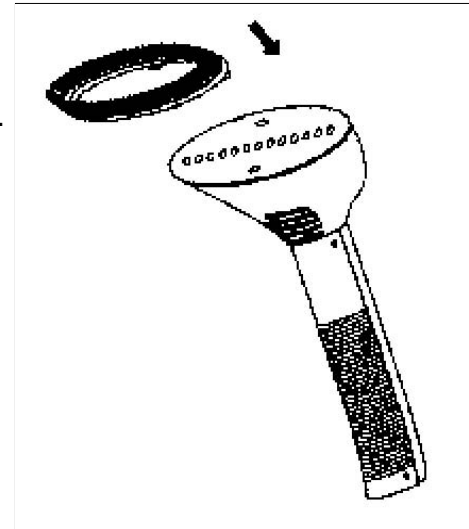

Figure 9
3. Push as shown in Figure 9 until the brush is firmly in place.